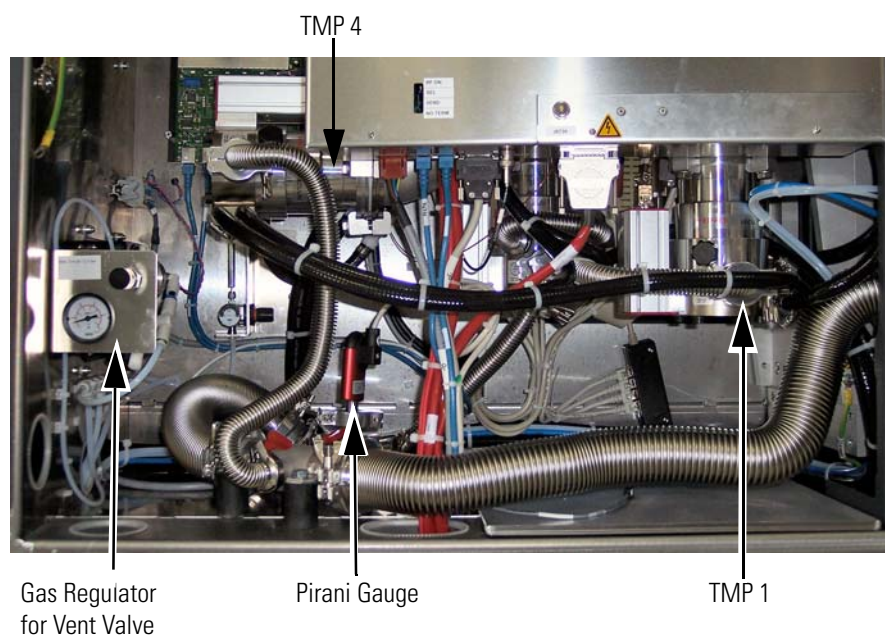
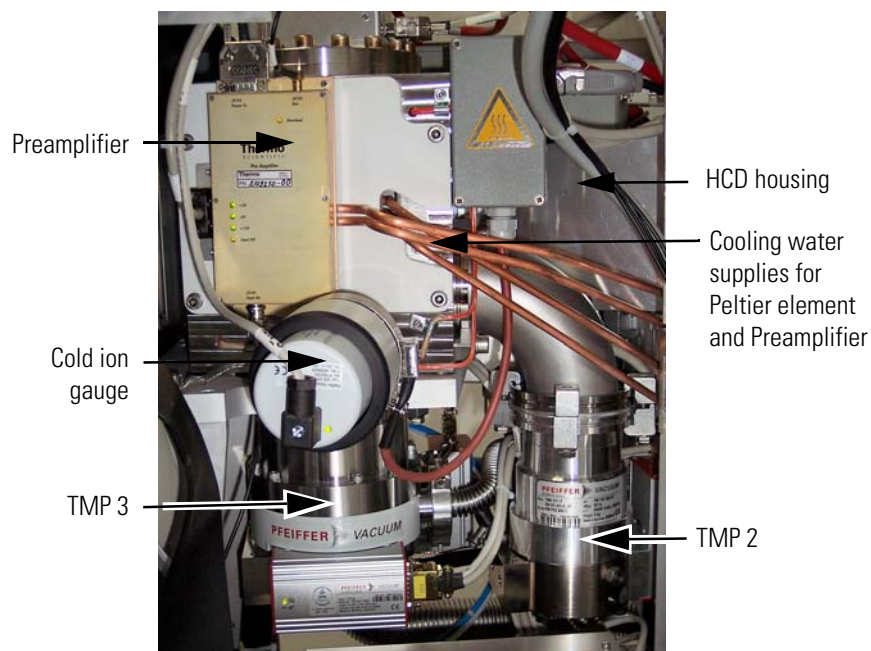

Figure 1-24. Vacuum components on the left instrument side
Figure 1-25. Vacuum components on the right instrument side
All parts of the system except for the Orbitrap analyzer are mounted in a aluminum vacuum chamber that is evacuated by a 60 L/s turbomolecular pump (TMP 1, see Figure 1-24). The rotary vane pumps of the linear trap (see page 1-33) provide the forevacuum for this pump. This chamber is bolted to a stainless steel welded UHV chamber, which accommodates Orbitrap, lenses, and corresponding electrical connections.
The UHV chamber is evacuated down to 10^{-8} mbar pressure range by a 60 L/s UHV turbomolecular pump (*TMP 2*, see Figure 1-25 on page 1-32). The Orbitrap itself is separated from the UHV chamber by differential apertures and is evacuated down to 10^{-10} mbar by a 210 L/s turbomolecular pump (*TMP 3*, see Figure 1-25). The HCD housing is evacuated by a 60 L/s UHV turbomolecular pump (*TMP 4*, see Figure 1-24) that is mounted to its bottom via an elbow. This dedicated pump for the HCD cell protects the low pressure cell of the linear trap from gas overload.
- The forevacuum of the LTQ Orbitrap Velos is monitored by an Active Pirani gauge (TPR 280, manufacturer: Pfeiffer) connected to the LTQ Orbitrap Velos forevacuum line. See Figure 1-24 on page 1-31.
- The high vacuum of the LTQ Orbitrap Velos is monitored by a Cold Ion Gauge (IKR 270, manufacturer: Pfeiffer) connected to the UHV chamber. See Figure 1-25 on page 1-32. Because the gauge would be contaminated at higher pressures, it is turned on only when the forevacuum has fallen below a safety threshold ($<10^{-2}$ mbar).